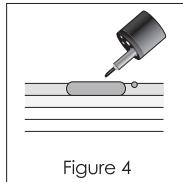

Figure 4
3. Adjust the endoscope to the target injection position and maintain, with the outer sheath in endoscopic view, advance the needle into the accurate position slowly(Refer to Figure 4).